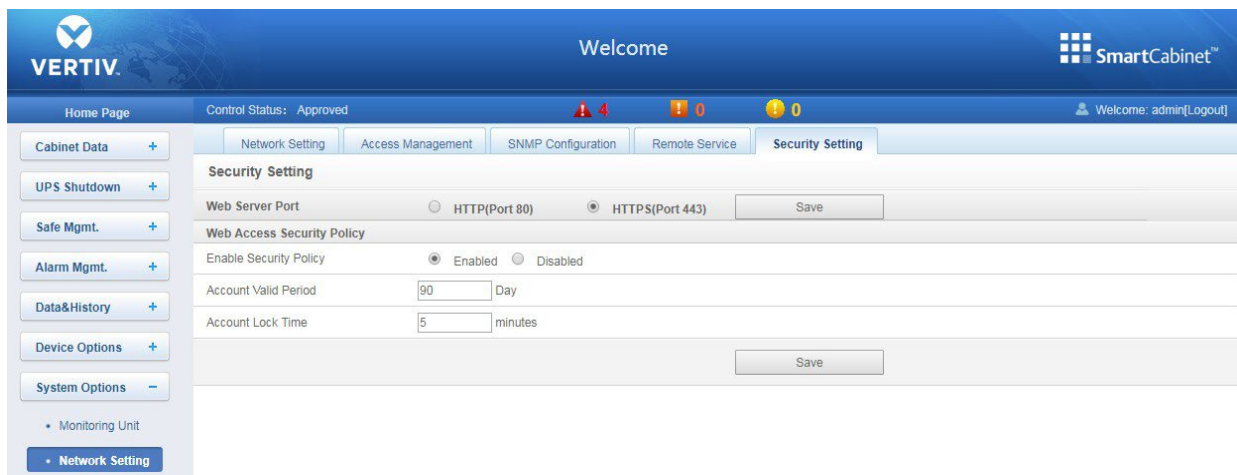

Figure 3-95 APP instructions
- Confirm Smart Cabinet 2-P Web access using the HTTPS protocol. Click to modify the way the system is set to enter the network settings, select Security Settings. Check HTTPS (433 port), as shown in Figure 3-95.